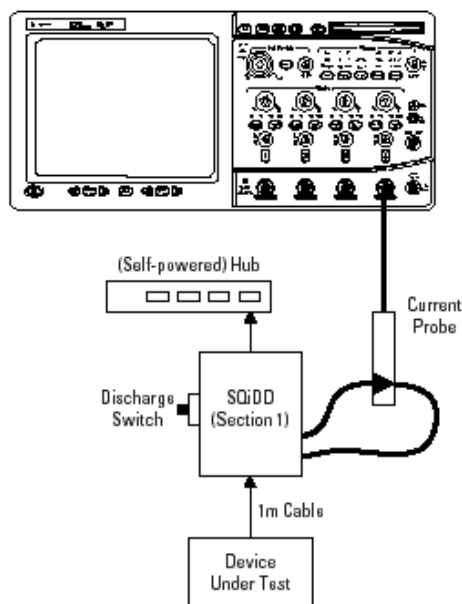

Figure 12. Device Inrush Current Test environment
1. Connect the equipment and test fixture as shown in Figure 12. Use the current probe to capture the **VBUS** current waveform. Ensure the probe direction is the same. When taking the measurement, first calibrate the current probe to 0 mA. A current probe will produce a DC offset that will result in an incorrect measurement if not performed beforehand.